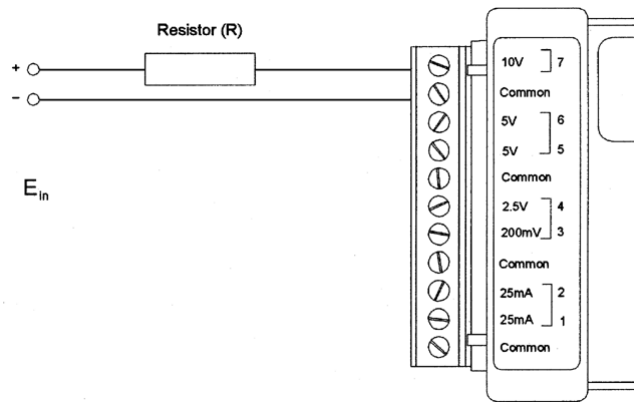

Figure 7-3: Extended Voltage Range on 10V Channel
The 10 volt channel can be modified to span higher ranges (greater than 10 volts DC) by adding a single resistor to the "10V" terminal shown in Figure 7-3. The value of the resistor (R) can be calculated by following the formula below, based on the desired voltage input range (Ein):
The 5 volt and 2.5 volt channels can be modified to span higher ranges (greater than 5 and 2.5 volts DC respectively) by adding a single resistor, in the same way as shown for a 10V channel in Figure 7-3 to the "5V" and "2.5V" terminals. The value of the resistor (R) can be calculated by the following equations, based on the desired voltage input range (E_{in}). A final Range can be determined to write a custom equation in TrendReader software.